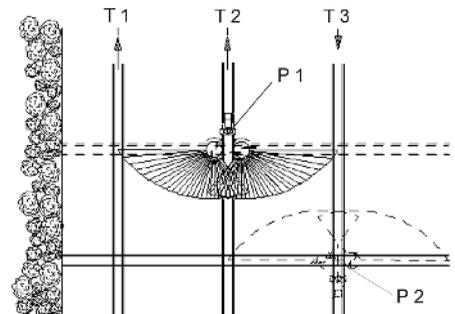

Fig. 56
**Open the shutter** when "driving up" approx. **on point P1** (Fig. 56) , when the spreader is in line with the 2nd tramline on the headlands (broken line).
**Close the shutter** when "driving down" **on point P2** (Fig. 56), when the spreader is in line with the 1st tramline on the headlands.